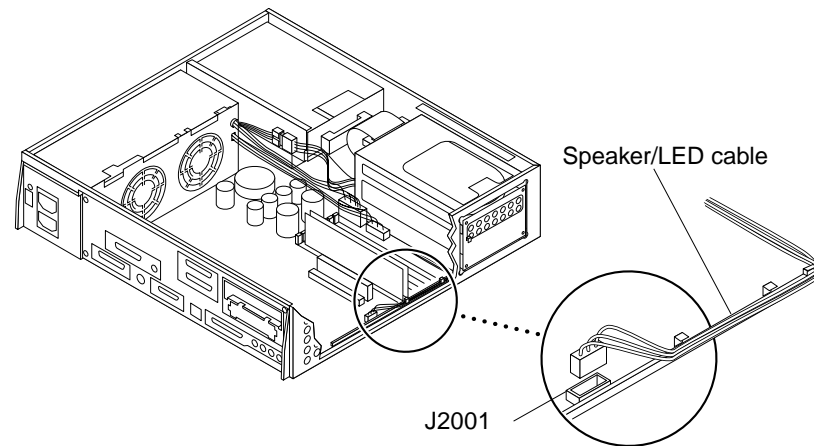

Figure 3-5 LED/Speaker Connector on the System Board
- 6. Connect the speaker/LED cable to the system board at J2001 (Figure 3-5).** Run the speaker/LED cable under the cable guide tabs on the edge of the motherboard.